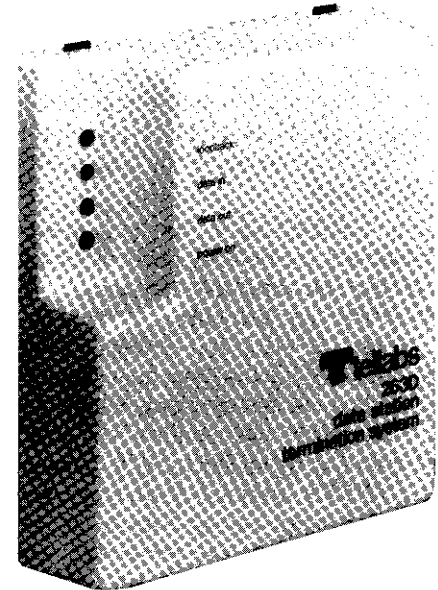

figure 1. 263DC-1 DST System
1.01 The Tellabs 263DC-1 (figure 1), 263DC-2, and 263DC-3 Data Station Termination (DST) Systems interface either a 2wire or a 4wire data set with a 4wire transmission facility. All three systems are compact, self-contained units that provide data interface and power rectification/regulation circuitry in an attractive enclosure that can be wall mounted or placed on a desktop. Power for these systems can be provided from battery feed or sealing current derived from the units' simplex leads, or from an external source of either nominal 26Vac or -22 to -56 Vdc. All three systems feature prescription gain and loss in the receive channel, prescription loss in the transmit channel, and manual or two-tone loopback. In addition, both the 263DC-2 and 263DC-3 provide prescription active equalization in the receive channel. All three units also include a 20mA sealing current source to provide sealing current for the 4wire facility.